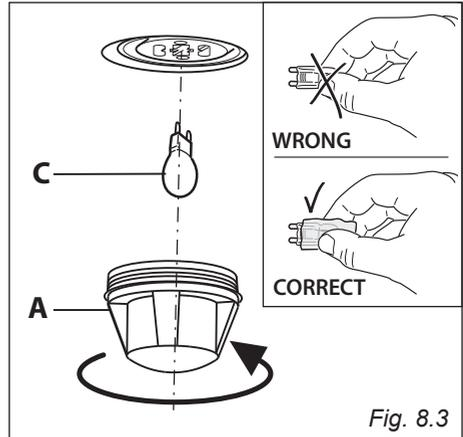

Fig. 8.3
- Remove the protective cover “A” (fig. 8.3).